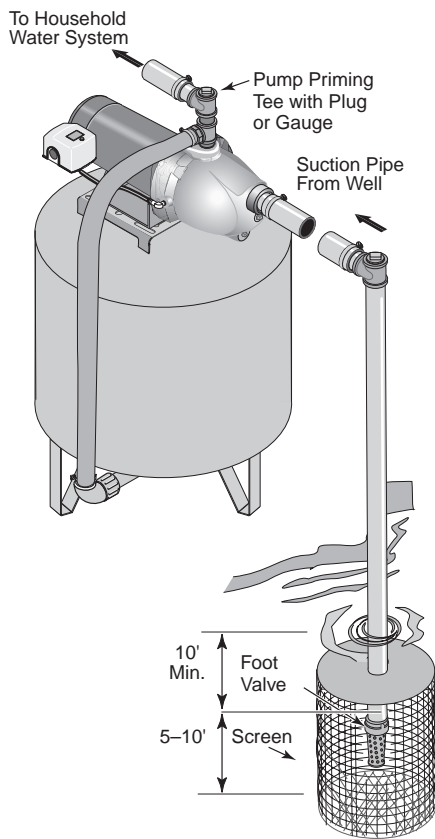

Figure 3: Surface Water Installation
Installation for Surface Water (Figure 3)
2. Assemble a foot valve and suction pipe (see Figure 3). Make sure that the foot valve works freely. Use Teflon™ tape or a Teflon™-based pipe joint compound on threaded pipe joints. Protect the foot valve assembly from fish, trash, etc, by installing a screen around it (see Figure 3).
4. Install a priming tee, priming plug, and suction pipe to the pump (see Figure 3). Support the pipe so that there are no dips or sags in the pipe, so it doesn't strain the pump body, and so that it slopes slightly upward from the well to the pump (high spots can cause air pockets which can air lock the pump). Seal the pipe joints with Teflon™ tape or a Teflon™ based pipe joint compound. Joints must be air- and water-tight. If the suction pipe can suck air, the pump cannot pull water from the well.